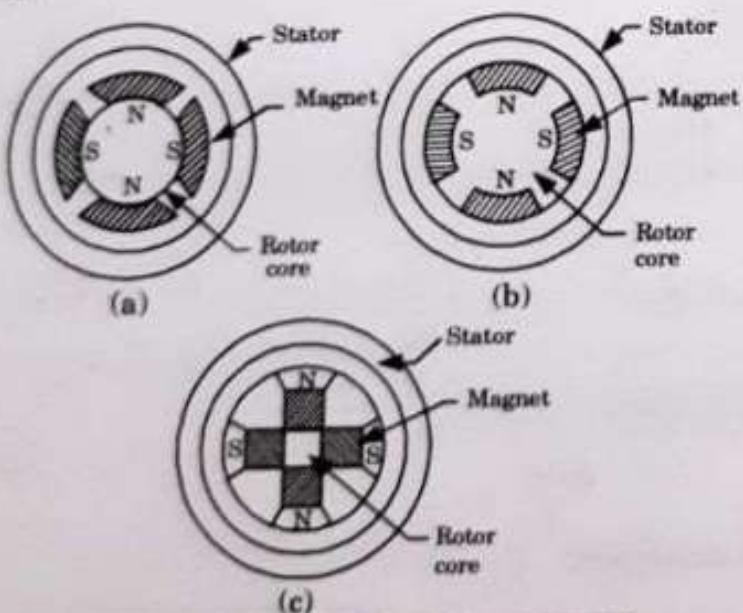

Fig. 4.6.1. Different types of PMAC.
2. It employs rotor geometries such as inset or interior as shown in Fig. 4.6.1.